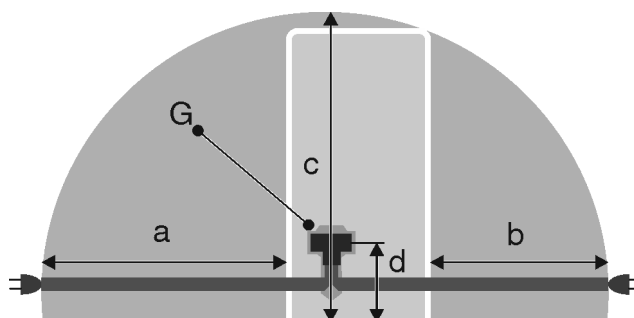

Fig. 23 \*
- The socket is not located behind the appliance but in areas a or b *Fig. 23 (a, b, c)*.
- ▶ Insert the appliance plug *Fig. 23 (G)* on the rear side of the appliance. Ensure that they latch into place correctly.